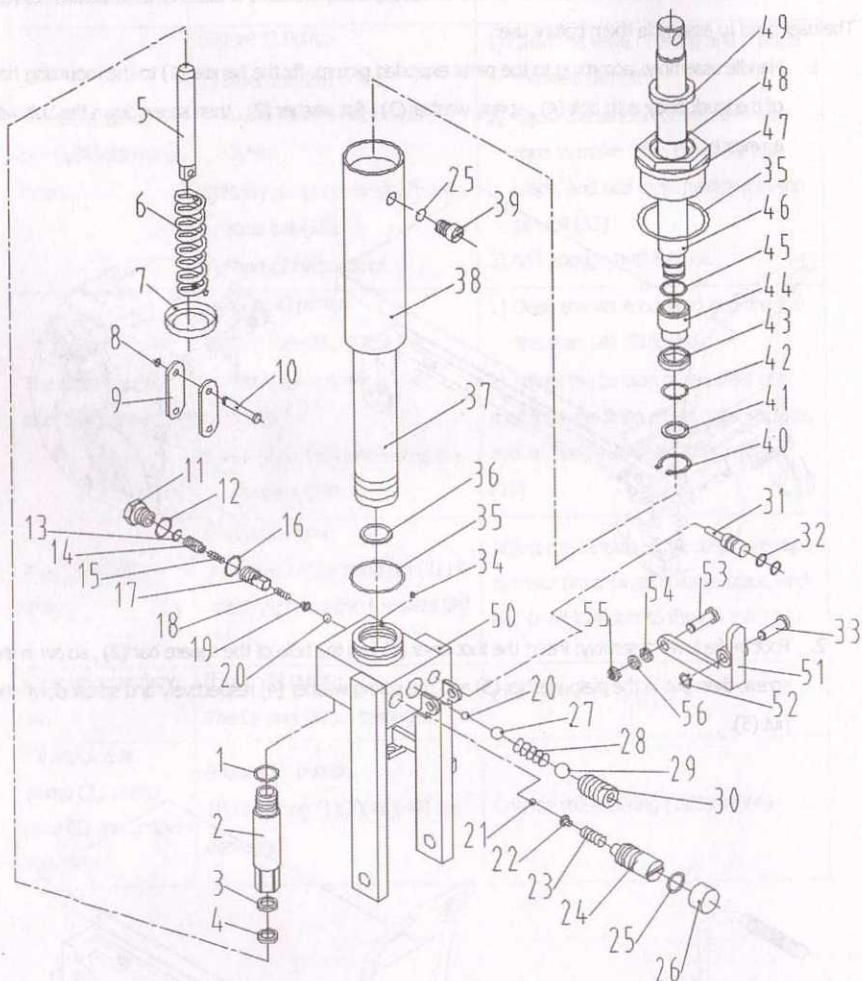

Figure 1
Screw out the 11# sealing screw in the pump (see figure 1 : pump) with a wrench; Pull the knob up; Unscrew the oil plug screw 39# and add hydraulic oil;
8. Materials of the sealing parts 1#,3#,4#,16#,25#,26#,32#,35#,36#,42#,43#,45#,48#,49# of the pump(see figure 1 : pump) is rubber, PU, whose maintenance interval is 2-year. Replace the sealings in time to avoid possible damage and poor performance of the truck.